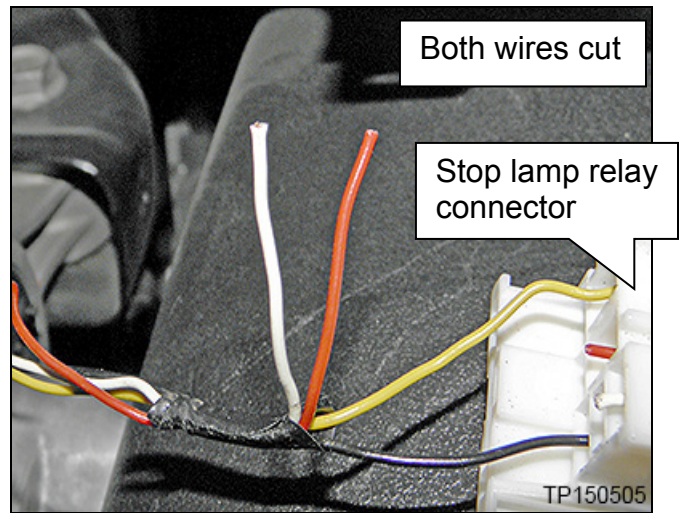

Figure 6
- Cut the red and white wires of the stop lamp relay connector (Figure 6).